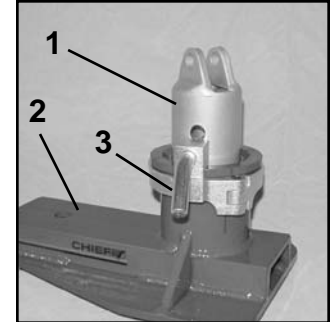

Figure 2
- Clamp Bar Tubes in Universal Anchoring Stand Bases and insert height adjusting pins. (See Figure 2.)